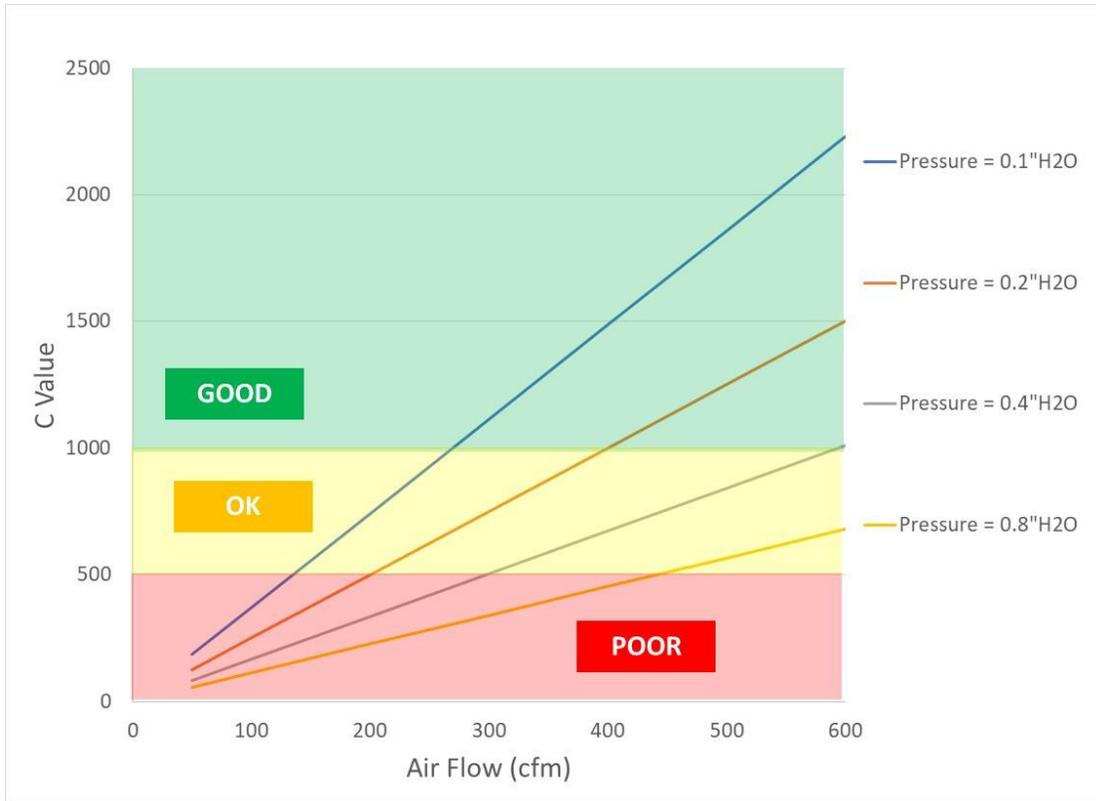

Figure 1 Duct system performance test C value plot based on air flow (cfm) and pressure ("H₂O).
- c. Figure 1 can be used to determine C value directly from air flow (cfm) and duct pressure (“H₂O”) measurements